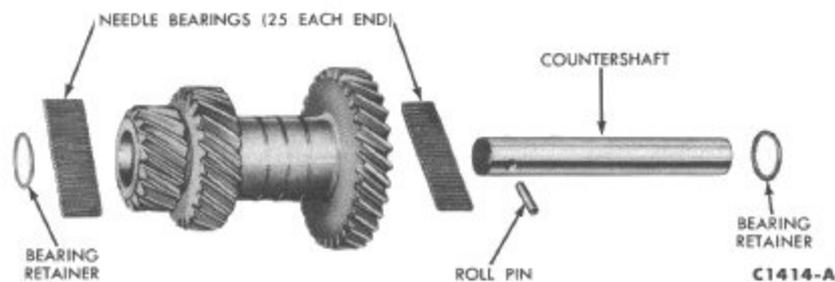

FIG. 48—Countershaft Gear Disassembled
23. Lift the countershaft and thrust washers from the case. Be careful not to allow the dummy shaft and needle bearings (Fig. 48) to fall out of the gear.
29. Remove the dummy shaft, 50 roller bearings and the 2 retainer washers (Fig. 48) from the countershaft gear.
shaft (Fig. 48) if it is bent, scored or worn.